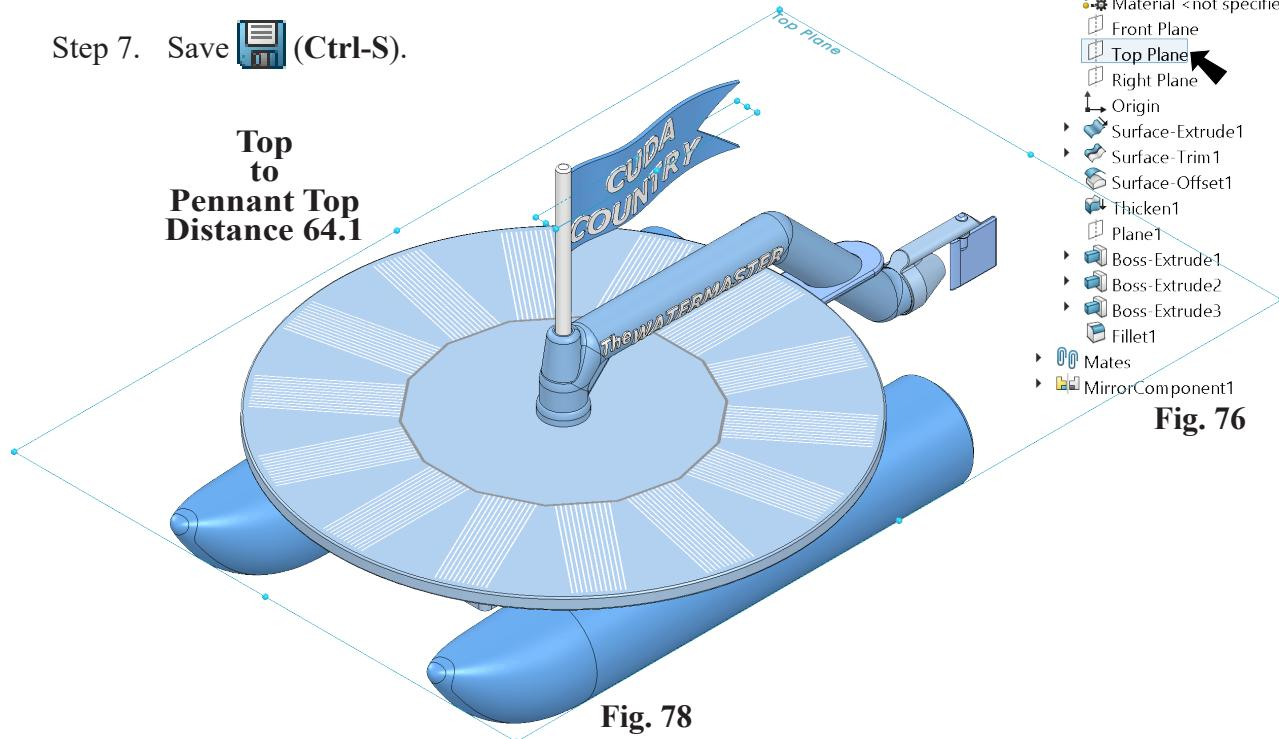

Fig. 76
Step 4. Expand the flyout Feature Manager design tree and click **Top Plane** . Expand **PENNANT** and click **Top Plane**  Fig. 76.